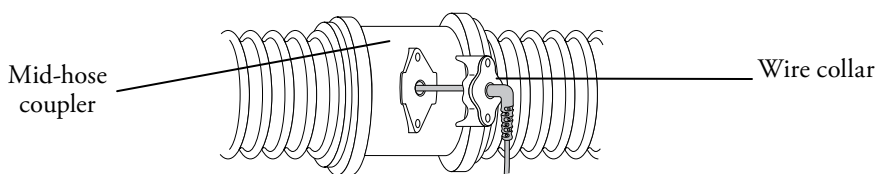

Figure 14. Removing the existing controller wire from the hose.
7. To replace the hose or controller remove the two screws that connect the wire collar to the mid-hose coupler and pull the wire out through the dedicated hole (see Figure 14). NOTE: If you are replacing both the hose and controller do not remove the wire collar from the hose. Proceed to Step 8.